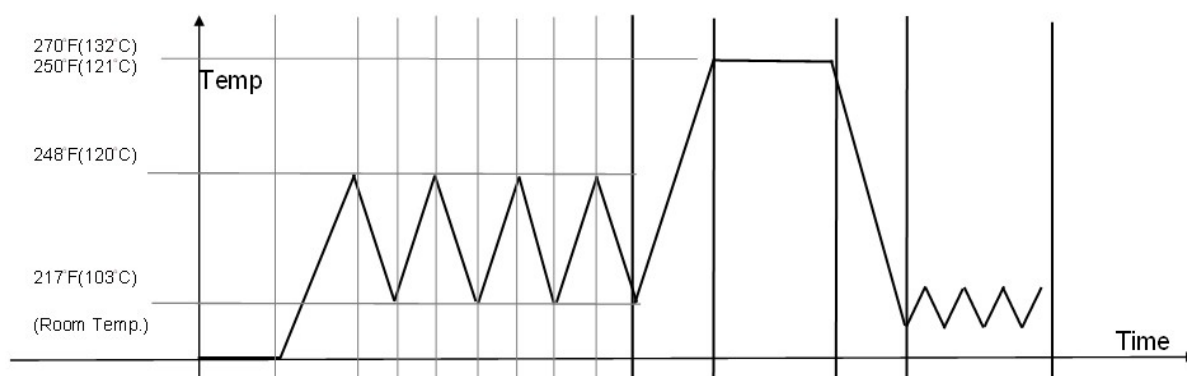

Figure 23
- B. Timing diagram for the sterilization program as shown in Figure 23.